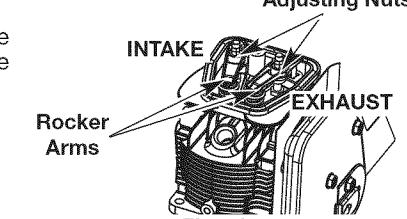

Fig. 43
- Slide the feeler gauge between the rocker arm and the top of each valve stem. Measure the clearance between the valve stem and rocker arm (Fig. 43). Measure both the intake and exhaust valves.
The recommended clearance for both intake and exhaust is .003 – .006 in. (.076 – 0.152 mm). Use a standard automotive .005 in. (0.127 mm) feeler gauge. The feeler gauge should slide between the rocker arm and valve stem with a slight amount of resistance, without binding. Figure 43 and 44 show how to measure the clearance.
- Turn the adjusting nut using a 5/16 inch (8 mm) wrench or nut driver (Fig. 43).